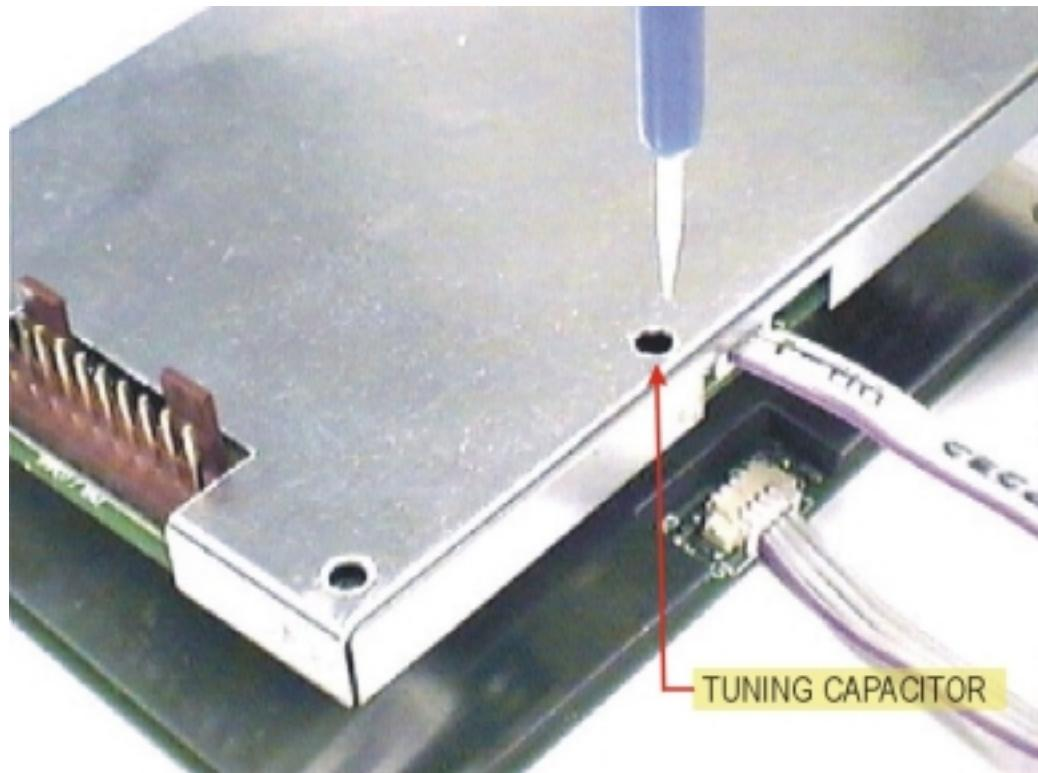

Figure 10: Location of tuning capacitor CV1
- It should be possible to tune the reader using the tuning capacitor shown in Figure 10 while leaving the antenna PCB fixed to the product. The product should ideally be designed to permit re-tuning once the MCR200 is fitted.